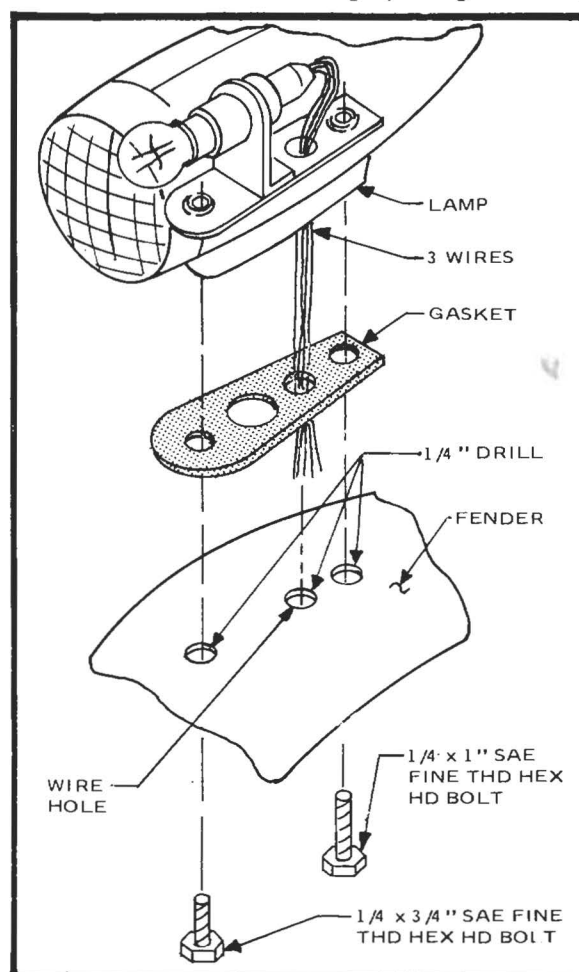

Figure 40
- ☐ Using the rubber gasket as a guide, locate the holes for the parking light on the top of the front fender. Move the gasket back and forth until the extreme top of the fender is found. (Figure 40) Drill as indicated for two mounting screws and wires, ($1/4''$). Attach leads to lights at this time to facilitate hook up later. Secure with $1/4 \times 3/4''$ and $1/4 \times 1''$ bolts, SAE fine thread (short bolt in front of light, long in rear).